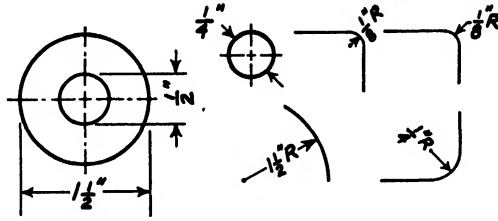

Fig. 2-10. Examples of dimensioning holes, circles, and arcs.
11. Indicate the size of a circle by its diameter, not its radius (see Fig. 2-10).
12. Dimension an arc (part of a circle) by giving its radius, followed by an R (see Fig. 2-10).